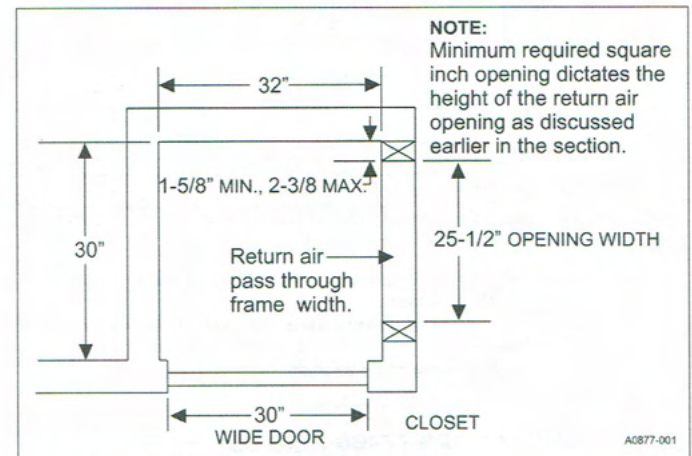

FIGURE 3: Upflow Closet Clearances
- Refer to the unit rating plate for the EBE/EUE model number, and then see the dimensions page of this instruction for supply air plenum dimensions in Figure 3. The plenum must be installed according to the instructions.